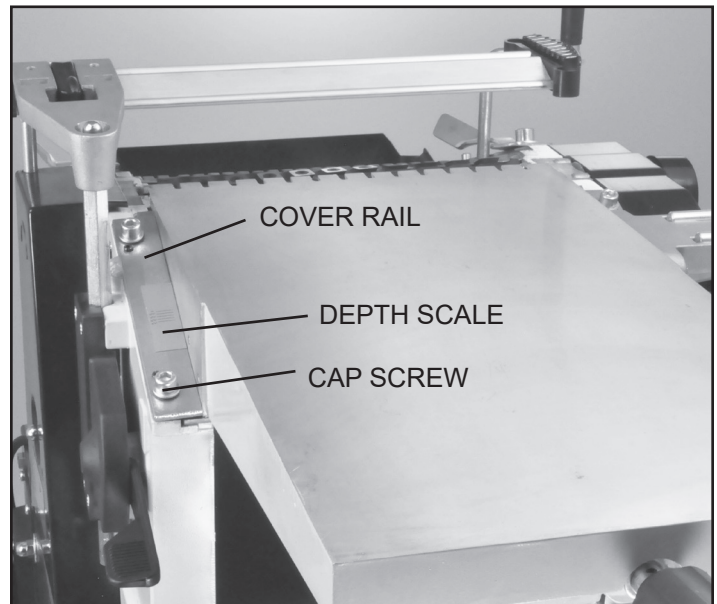

FIG. 9
5. Install the infeed table by positioning it under the table cover rails and wind the depth of cut bar until the uppermost line on the depth Scale is registered. FIG. 15. Re-fit and secure the table cover rails, FIG. 9.